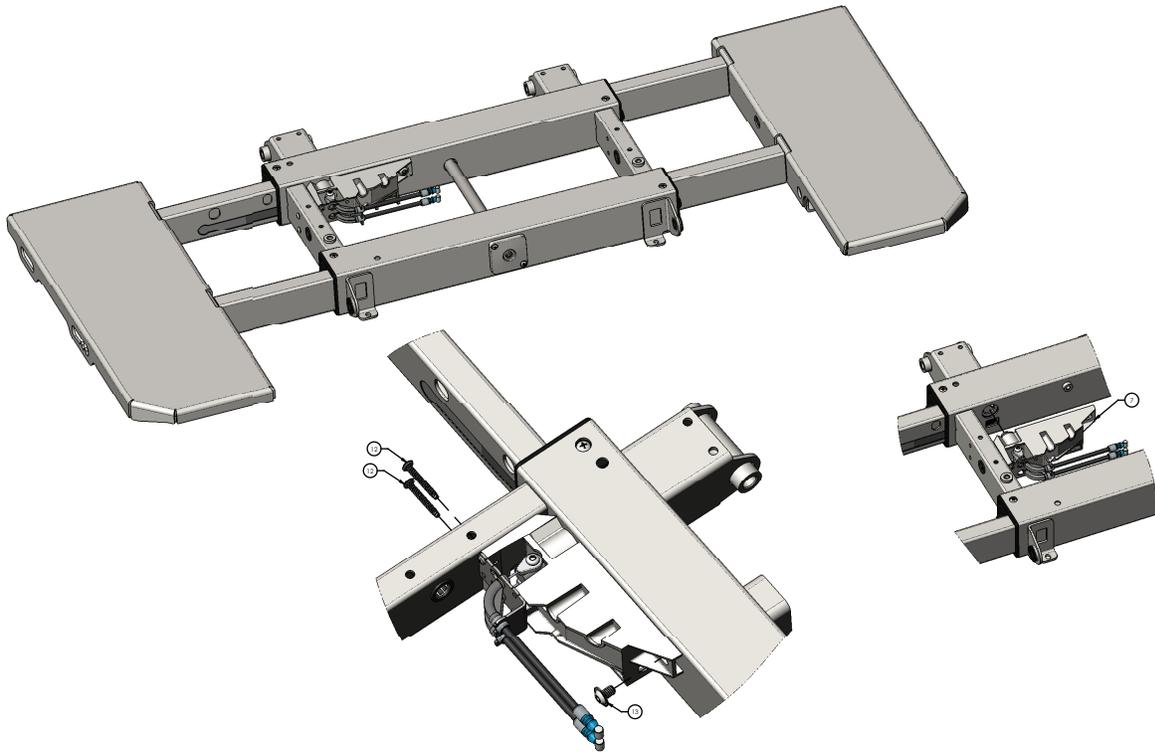

Figure 22 – DPM board replacement, foot
10. Using a T25 Torx driver, remove and save the screw (13) that secures the DPM assembly (7) to the foot frame (Figure 22).
11. Using a T20 Torx driver, remove and save the two screws (12) that secure the DPM assembly (7) to the foot frame (Figure 22).